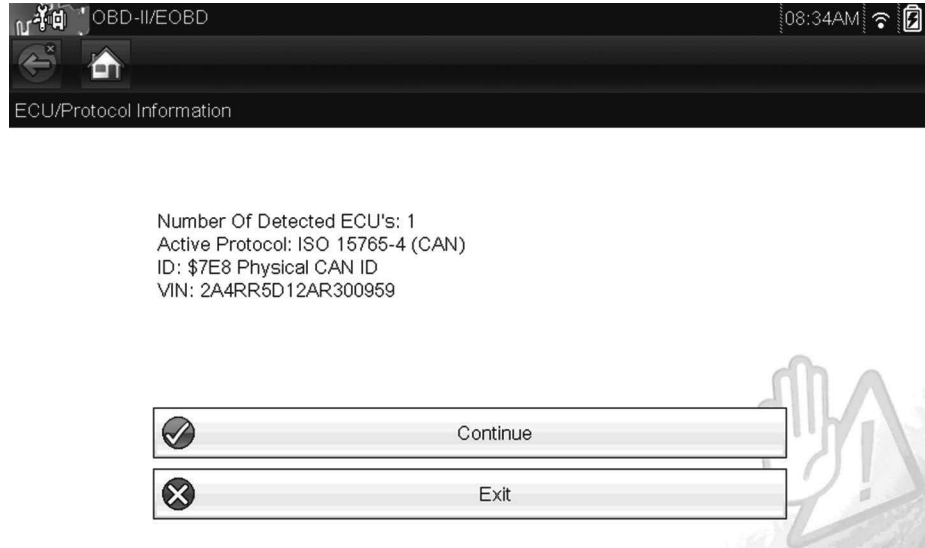

Figure 16 Typical - OBD-II/EOBD ECU/Protocol and VIN (Solus Edge/Modis Ultra)
- **Vehicle Identification Number (VIN)** - displays the VIN (*Figure 16*)